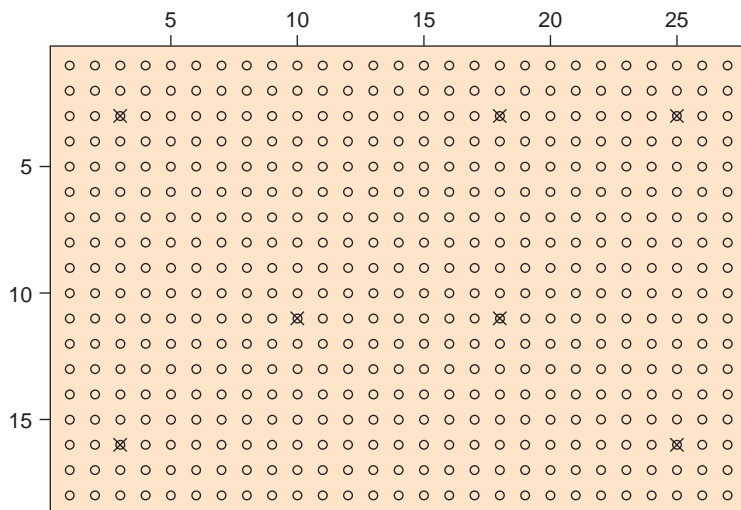

Figure 1.18 Positional reference system used to identify points on an electronic matrix board.
- Use a felt tip pen to mark the holes in groups of five along the top edge and down the left-hand edge as shown in Fig. 1.18
- The pins can then be inserted as required. Figure 1.18 shows a number of pin reference points. Counting from the left-hand side of the board there are 3:3, 3:16, 10:11, 18:3, 18:11, 25:3 and 25:16.